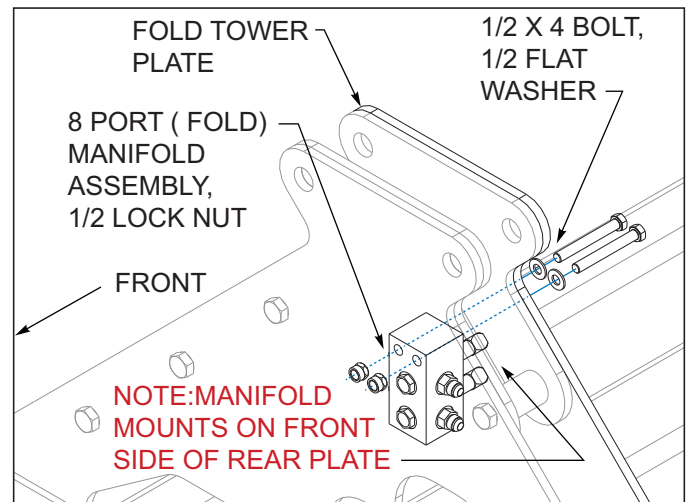

Figure 3-18: 8 Port Manifold Installation Front
3. Models 2411AFG-07-09 install the 8 port manifold on the front side of the front rear plate of the front fold tower using 1/2 x 6 bolts, .75 x .532 x 1.875 round tube and 1/2 lock nuts See Figures 3-18.